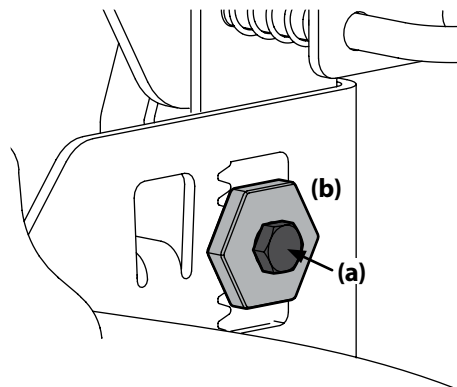

Figure 4-7
- Loosen, but do NOT remove, the hex bolt (a) on the rear left deck hanger link. See Figure 4-7.
- Using a wrench, raise or lower the left side of the deck by turning the adjustment gear (b). See Figure 4-7.